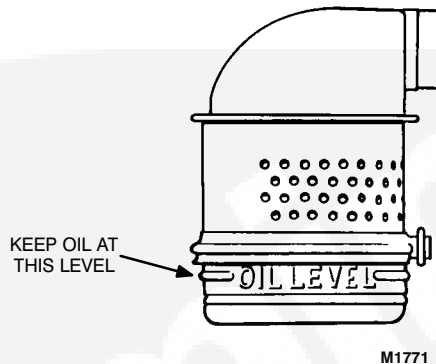

FIGURE 7-8. OIL BATH AIR CLEANER
1. Loosen the bottom clamp, remove the cleaner base and clean the part (Figure 7-8).